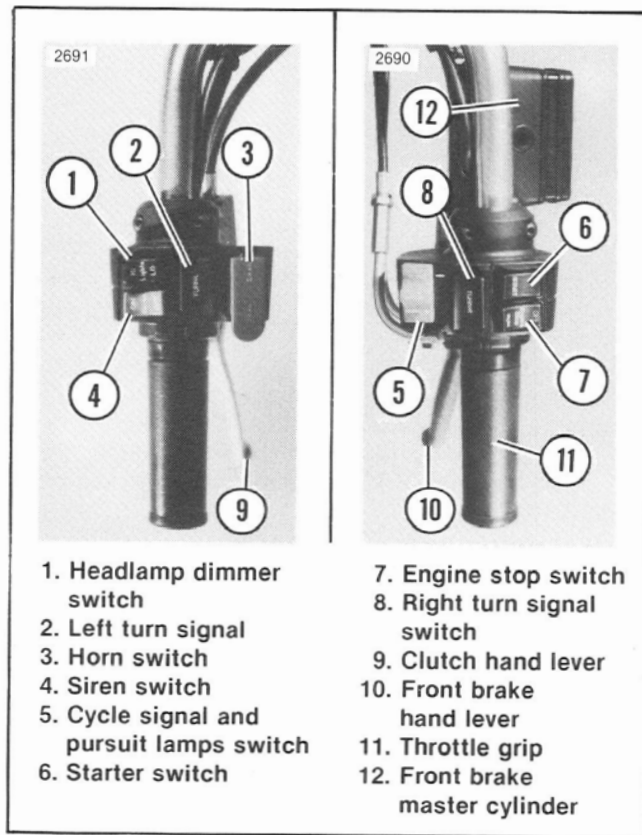
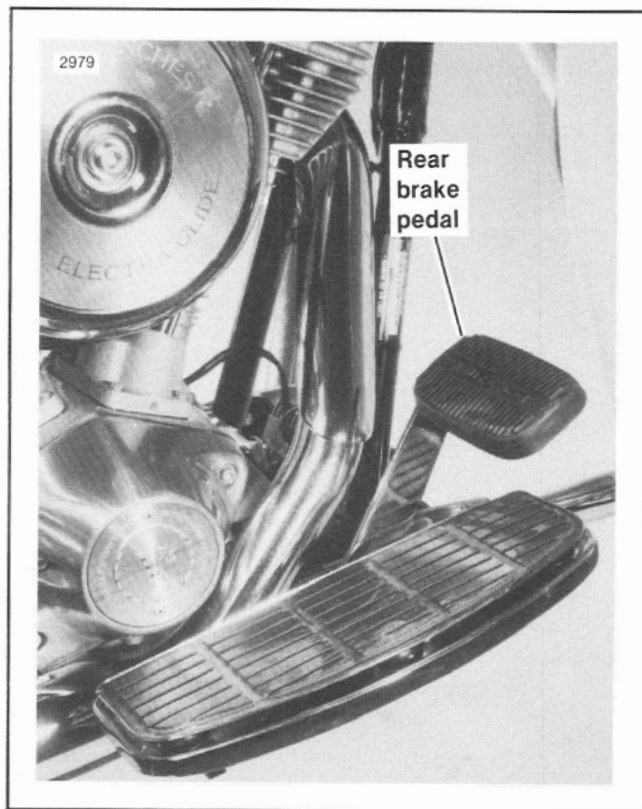

Figure 9. Handlebar Controls
Figure 12. Rear Brake Pedal — FLHT
See Figure 9. The starter switch (6) is located on the right handlebar. With ignition on, engine stop switch (7) in "RUN" position and transmission in neutral, push switch to operate starter motor.
See Figure 9. Rocker switch (7) on right handlebar turns ignition on or off and should be used at all times to stop the engine, especially in an emergency. To stop engine, push switch to position marked OFF. Turn ignition/light switch to position marked OFF and remove key before parking or leaving vehicle.
See Figure 9. The throttle control grip (11) is located on the right handlebar. Turn control grip clockwise to close throttle; turn control grip counterclockwise to open throttle.
See Figure 9. The clutch hand lever (9) is located on the left handlebar where it may be easily operated with the fingers of the left hand. Pull lever in against handlebar grip to disengage clutch; release the lever slowly to its outward position to engage clutch.
See Figures 12 and 13. The brake pedal controls the rear wheel brake and is located on the right side where it is operated by the right foot. See Figure 9. The brake hand lever (10) controls the front wheel brake and is located on the right handlebar, where it is operated by the fingers of the right hand.
See Figure 9. Right turn switch (8) on the right handlebar operates the right front and right rear flashing turn indicator lamps. Left turn switch (2) on left handlebar operated the left front and left rear flashing turn indicator lamps.
See Figure 9. The headlamp dimmer switch (1) on the left handlebar controls the headlamp high and low beams.
See Figure 9. The siren switch (4) is located on the left handlebar. The siren switch is used in combination with the horn switch (3) to activate the siren. The three procedures for operating the siren are as follows:
See Figure 9. The horn is operated by the horn switch (3) on the left handlebar. Refer to the SIREN SWITCH pre-
See Figure 9. The cycle signal and pursuit lamps switch (5) is located on the right handlebar. The two procedures for operating this switch are as follows: